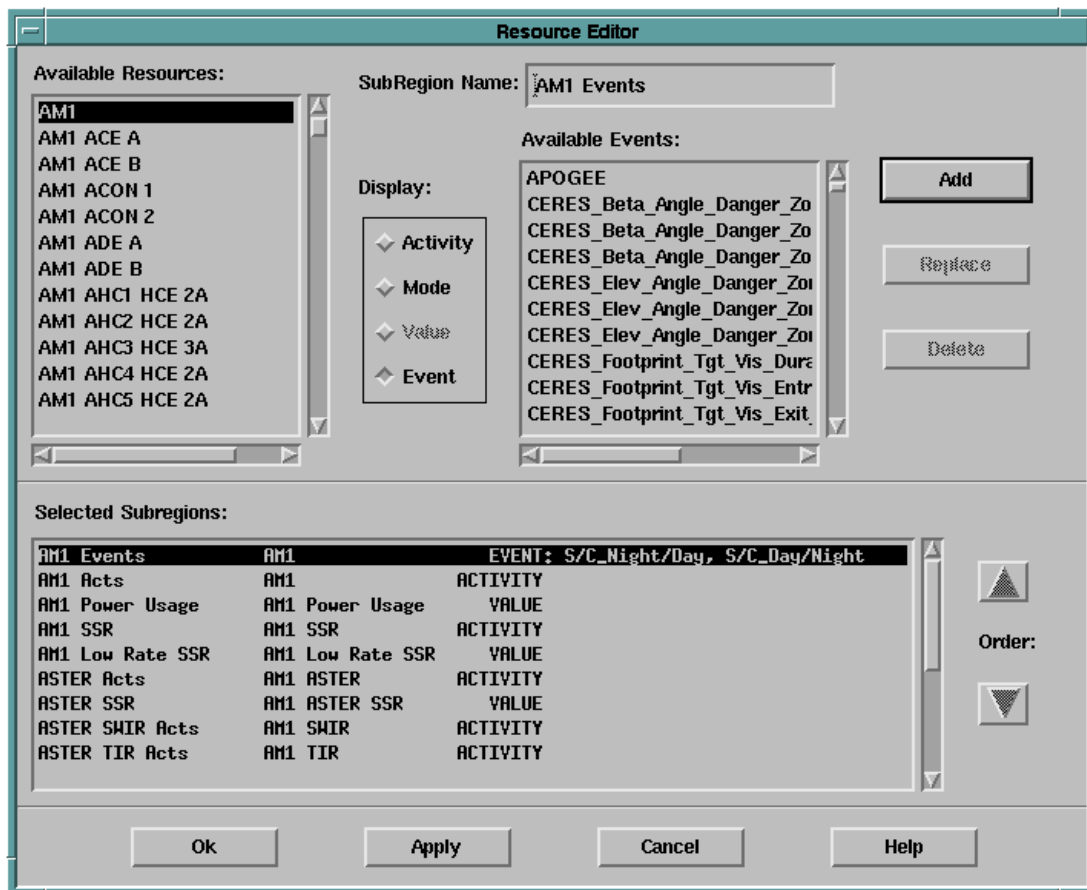

Figure 8.5.9.3.1-1. Resource Editor Dialog Box
1. Choose **Resources...** from the User Setup menu. The Resource Editor dialog box opens (see Figure 8.5.9.3.1-1).